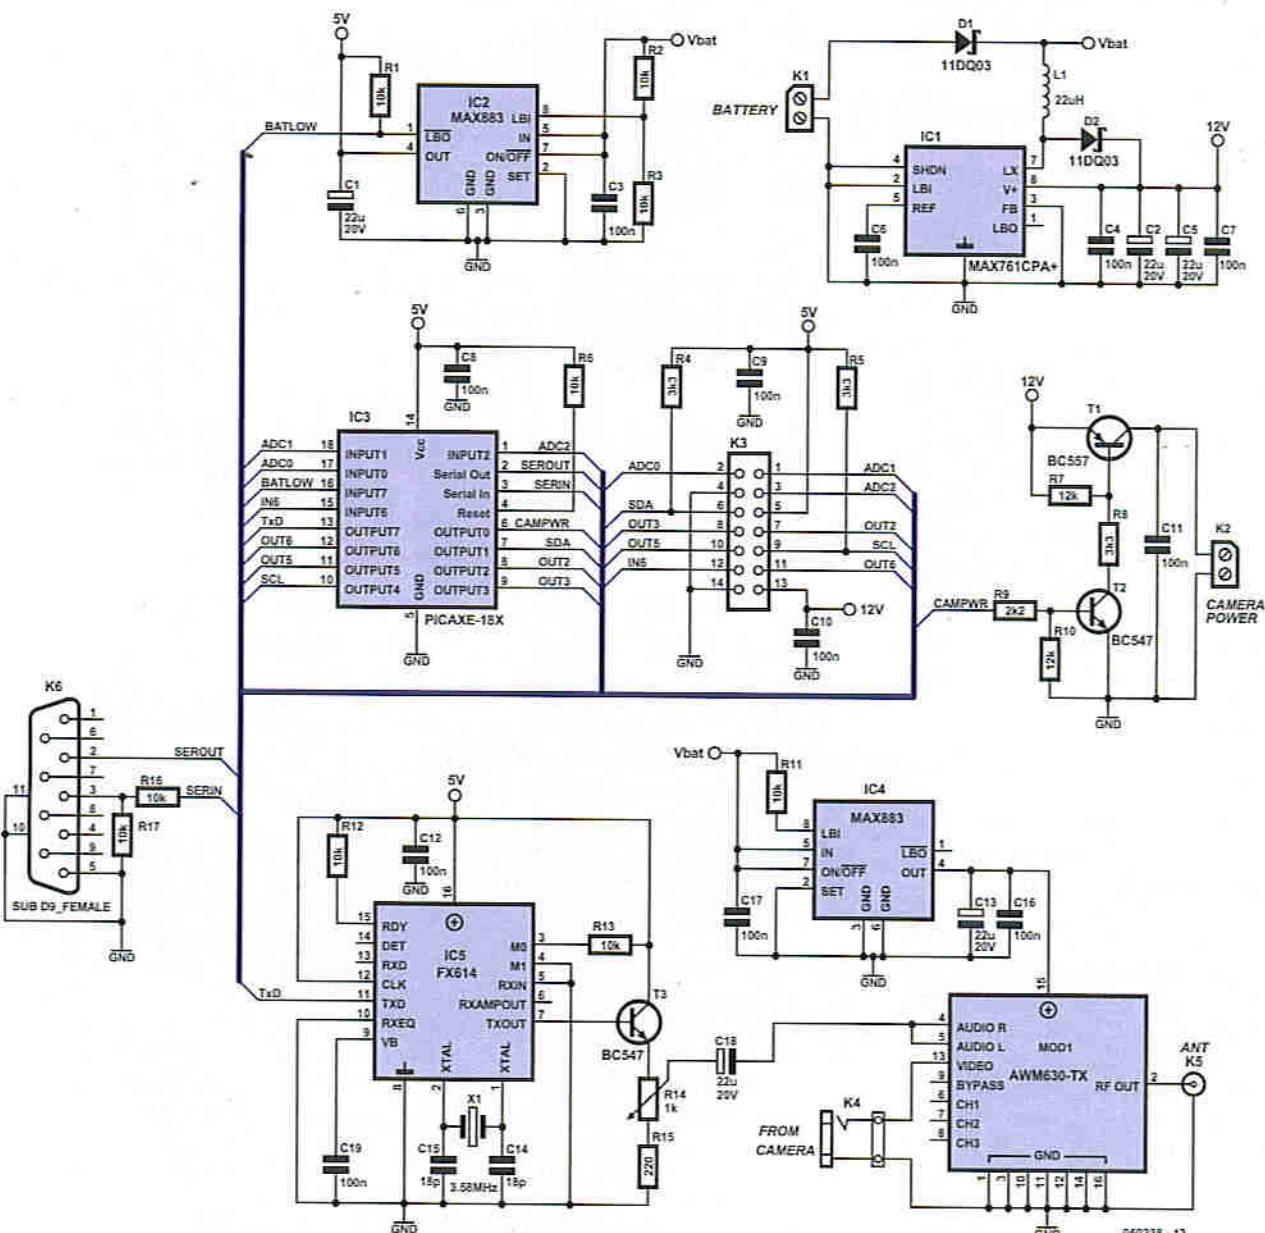

Figure 3. Circuit diagram of the AVT circuit board.
**Figure 3** shows the schematic of the Airborne-Video-Telemetry-system. The circuit uses a PICAXE microcontroller (IC3). The PICAXE family consists of PIC Flash microcontrollers from Microchip which are pre-programmed by a company called Revolution Education Ltd (REL) with bootstrap code. With this code, the PICAXE microcontroller can be repeatedly programmed in BASIC with a simple 3-wire connection to the serial port of a PC. In this way, a conventional In-Circuit-Programmer (ICP) is not necessary.